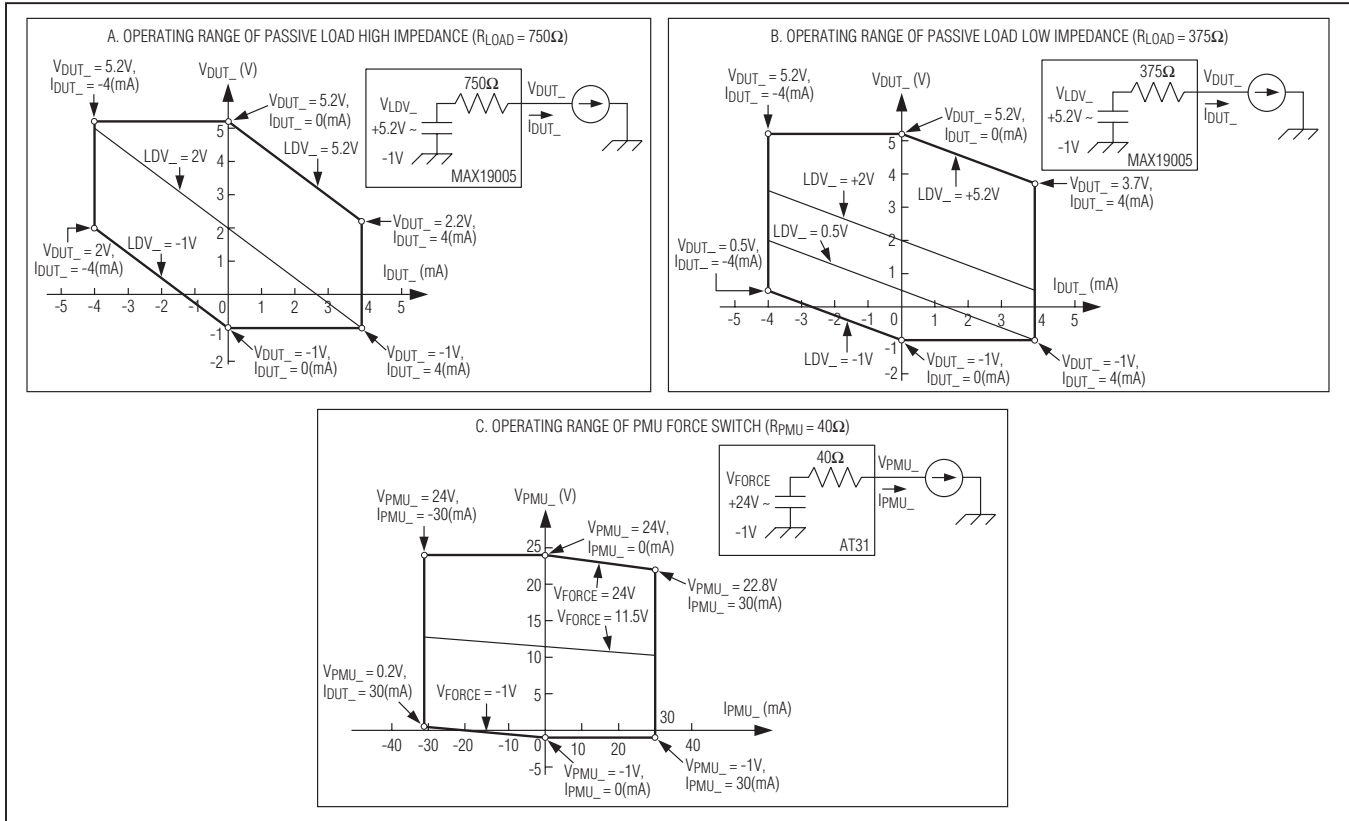

Figure 1. Operating Ranges
- Note 8:** At this pulse width, the output reaches at least 90% of its nominal (DC) amplitude. The pulse width is measured at  $DATA\_$ .
- Note 13:** Operating output voltage/current range of passive load and PMU force switch at +24.6V supply. See Figure 1.